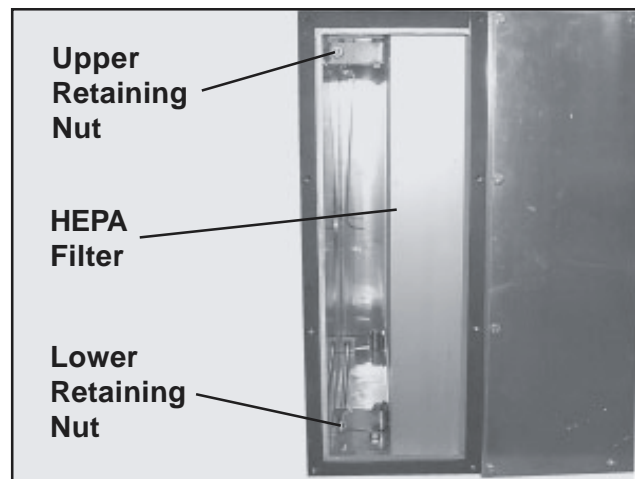

Figure 54. HEPA Filter Retaining Nuts
4. With a 7/16 in. nut-driver, loosen the upper and lower retaining nuts that hold the HEPA filter in place (Figure 54).
3. Tighten the two retaining nuts that hold the filter in place (Figure 54). **Note:** Tighten the nuts enough to squeeze the filter snugly against the blower motor housing for an airtight fit.